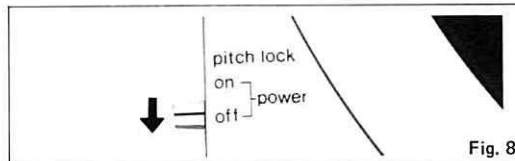

Fig. 8
4. After that, set the power switch/pitch lock knob to "off". (See Fig. 8.)